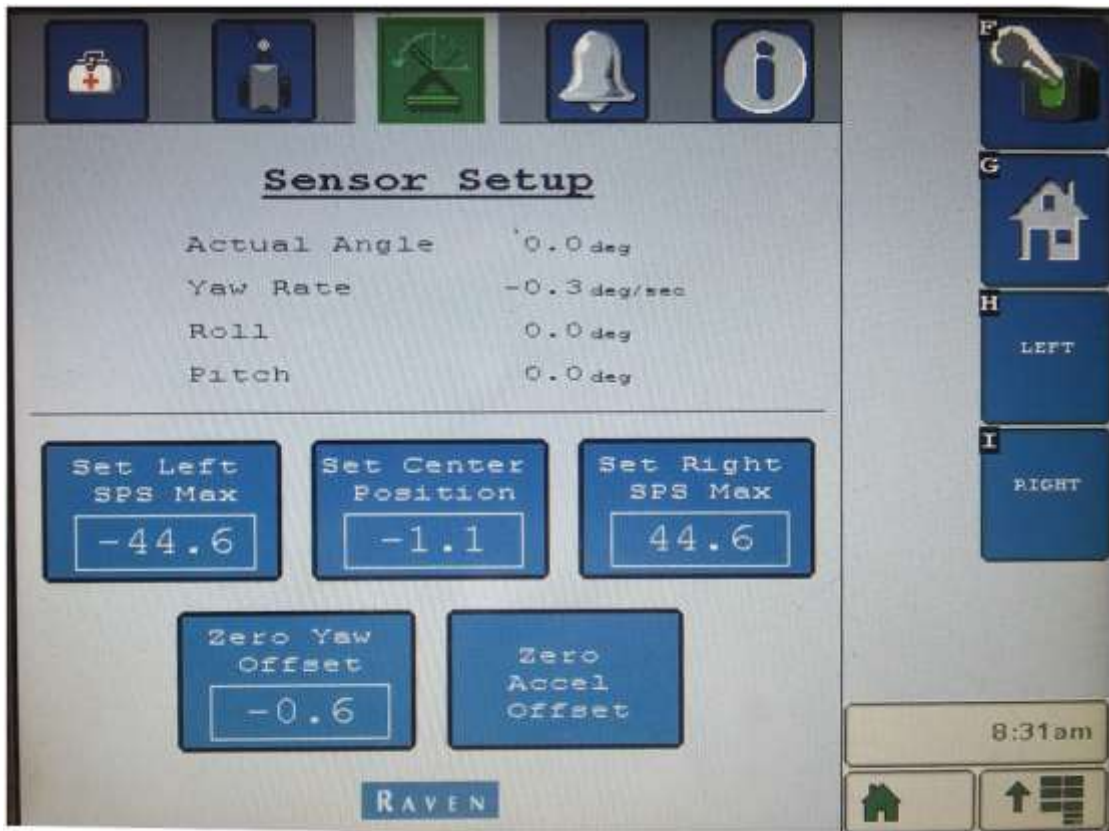

Figure 4: Sensor Setup during normal operation
The “Sensor Setup” screen should appear with similar ranges to those shown in Figure 4.
6. Repeat Step (5) to the right and set the max SPS right position.
8. Verify that the settings shown on the page are similar (within 5 degrees) to the settings shown in Figure 4.